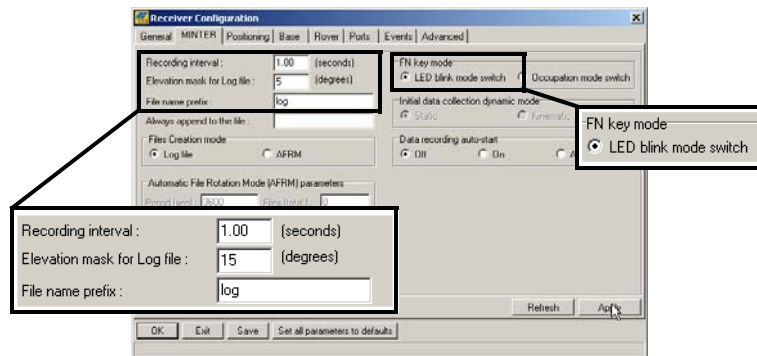

Figure 3-2. Configure MINTER
2. Open PC-CDU, click **Configuration ▶ Receiver ▶ MINTER** and specify the following parameters, then click **Apply** (Figure 3-2):